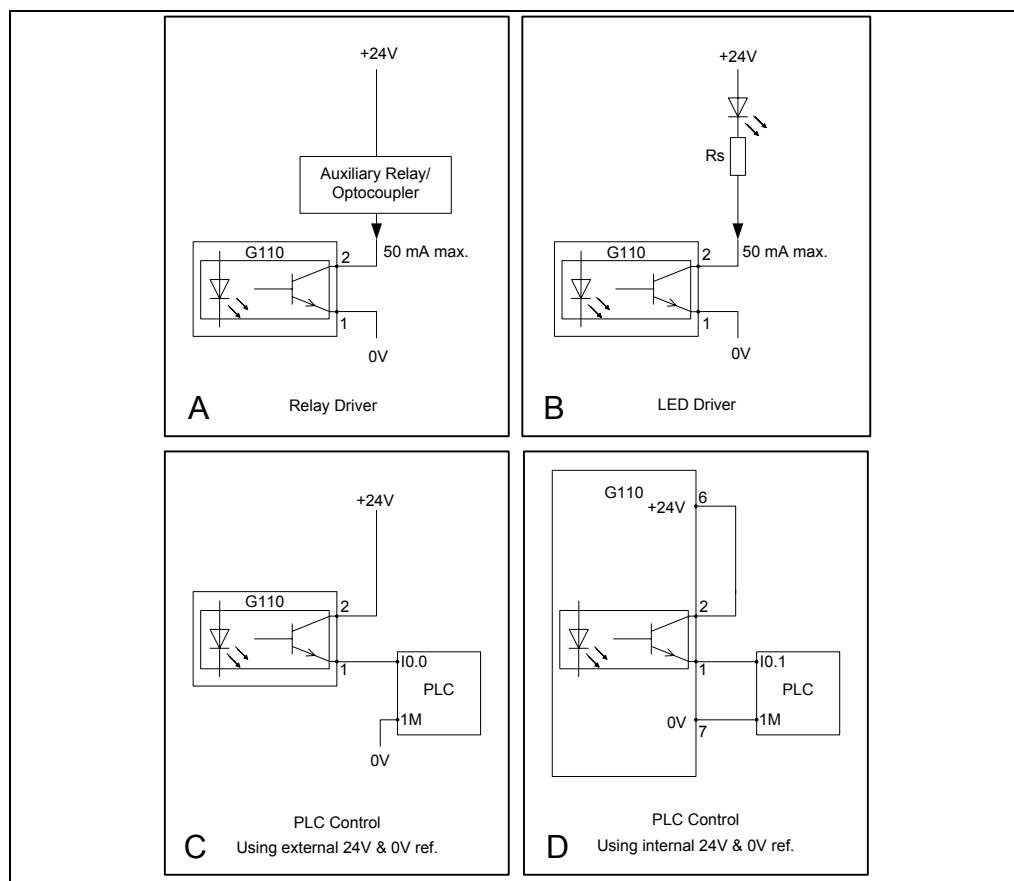

Figure 3-8 Typical Configurations of the Digital Output
It can therefore be connected to operate a warning light (LED) see Figure 3-8 (B) on page 50 or an auxiliary relay, see Figure 3-8 (A), providing that those ratings are not exceeded.
Since the digital input of a PLC has a high impedance, the digital output can also be connected to the PLC using the internal power supply of the inverter using terminal 6 of the inverter, see Figure 3-8 (D) below. An external 24 V power supply is also permissible, see Figure 3-8 (C) below.
The sense of the optocoupler - "switch" (contacts open/contacts closed - respectively high active and low active) depends on the signal selected by P0731. For example, P0731=4 means drive running equals high active and is describe in the Parameter List. The sense of the optocoupler may be inverted by using P0748. Some typical configurations are shown in Figure 3-8 below.